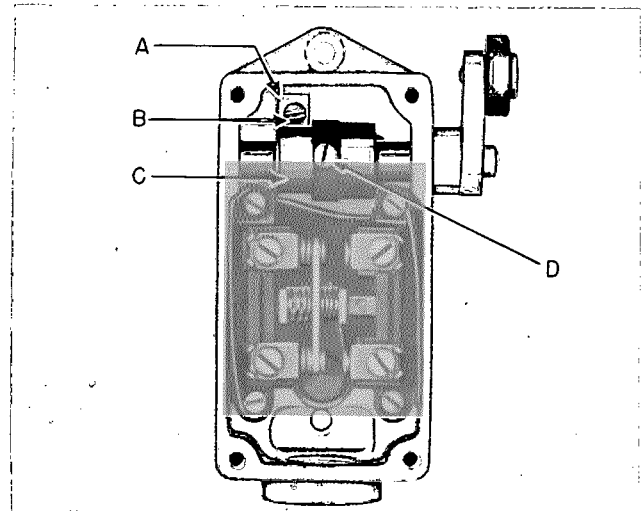

Fig. 6. Interior view of CR9440-J2 limit switch
The CR9440-J3 forms of this limit switch line may not be reversed. The reversal of the CR9440-J2, -J4 and -J5 forms is accomplished in the same manner in all three cases. Fig. 6 is a view of the CR9440-J2 switch with the front cover removed to show the contacts and their mounting as well as the switch-action reversing adjustment (A), which in the case of the CR9440-J4 and -J5 forms is located on the opposite side of the shaft center line toward the contacts. Assume, for example, that the switch pictured in Fig. 6 is set up for clockwise operation and it is desired to change to a counterclockwise operation.
The first step in the procedure is to loosen the switch-action-reversing adjustment screw (B) Fig. 6. Rotate the operating roller lever in the clockwise direction into full overtravel, noting that the adjustment plate (A) Fig. 6, shifts. Retighten the loosened screw securely to be sure that no slippage will occur between the adjustment plate and the section of the box on which it mounts. Operate the switch several times to be sure that the snap-action is present and that the return spring (C) Fig. 6, will reset the switch to its normal position, in preparation for succeeding operations. This latter check is accomplished by manually restraining the lever against the return spring and permitting it to return to its normal position very slowly. Should the spring return fail to function properly after the above procedure is completed, it would indicate that the adjustment plate did not shift sufficiently, and the operations described above should be repeated, making certain that the adjusting plate shifts its full travel.
If, in the CR9440-J2, -J4, and -J5 switches, it is desired to eliminate the spring return feature to provide a maintaining contact switch, this may be accomplished by removing the screw and the adjusting plate (A) and (B) in Fig. 6.
3. Referring to Fig. 6, completely remove the screw (D).
7. Replace screw (D), and the operation is complete.